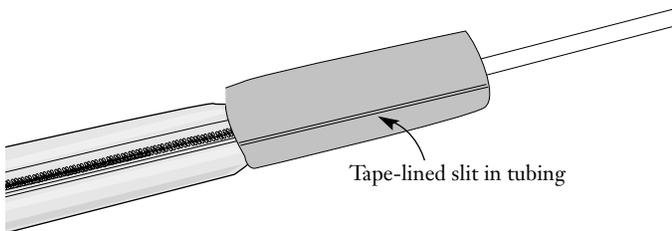

Figure 26
- b) Apply a 6-inch piece of 7/8 x 1/2-inch foam tubing over the cable. Slide it over the edge of the pulling sleeve until it is flush with the end of the sleeve (Figure 26).